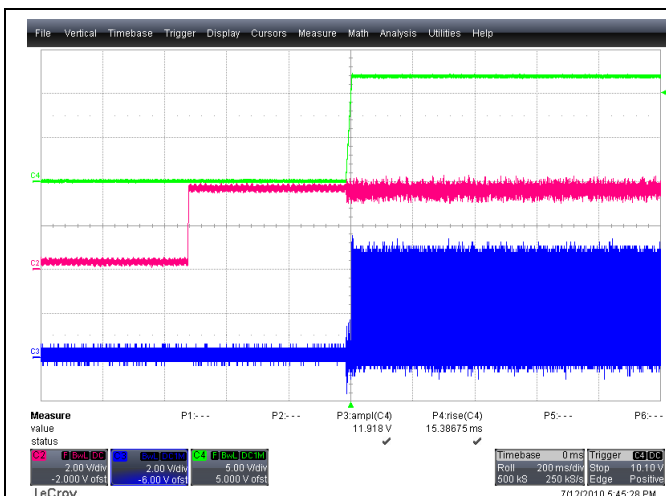

Figure 16 - Startup with 0.5sec delay, 48VDC, 8A load, with synchronous rectifiers disabled during softstart.
- A. **PS_ON Turn on Delay:** Figure 16 and Figure 17 show the startup sequence with a 0.5 second and 2 second delay respectively. This test was conducted by monitoring the PSON signal (TP29), the output voltage (J4 and J5) and setting a programmable delay using the drop down menu. Monitoring the synchronous rectifier (test point SR1 and SR2) is optional.